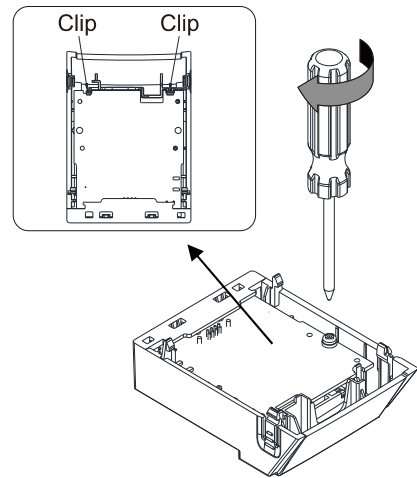

Figure 8-16
3. Make sure that two clips properly engage the option card on the backside, and then tighten the screws (suggested torque value: 4–6 kg-cm [3.5–5.2 lb-in.] [0.39–0.59 Nm]), as shown in Figure 8-16.